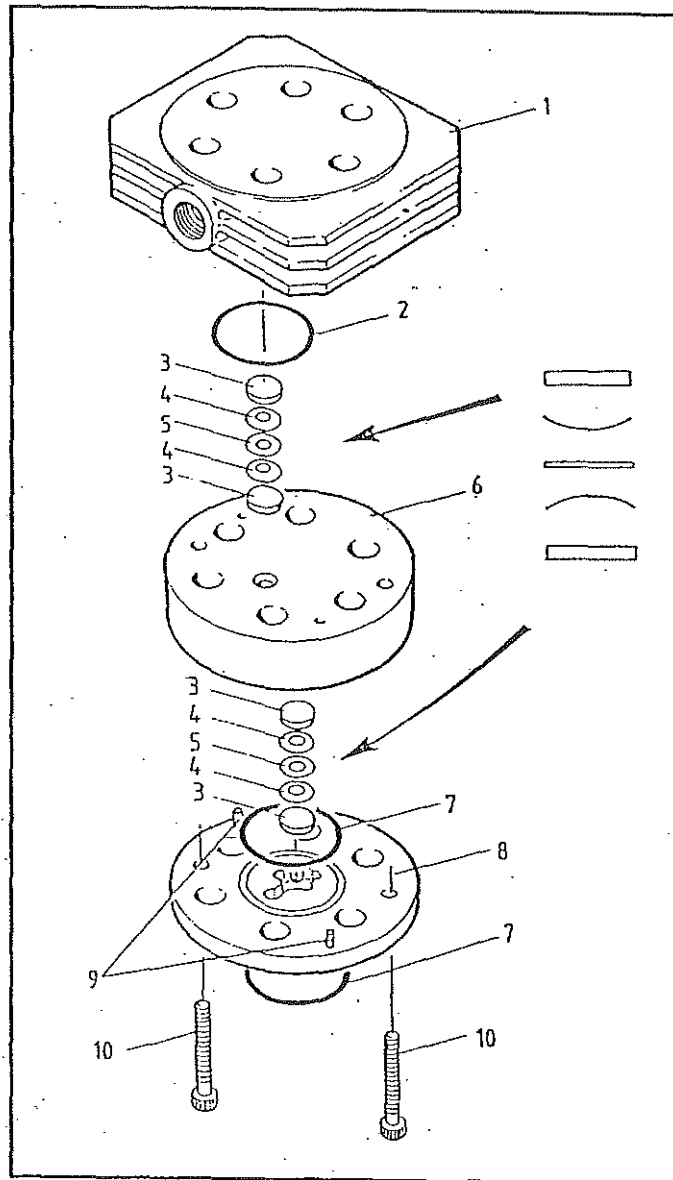

FIGURE 13-7 FOURTH STAGE VALVE
13.3.2.11 FOURTH STAGE SUCTION AND DELIVERY VALVE/CYLINDER HEAD ASSEMBLY OVERHAUL (FIGURE 13-7).